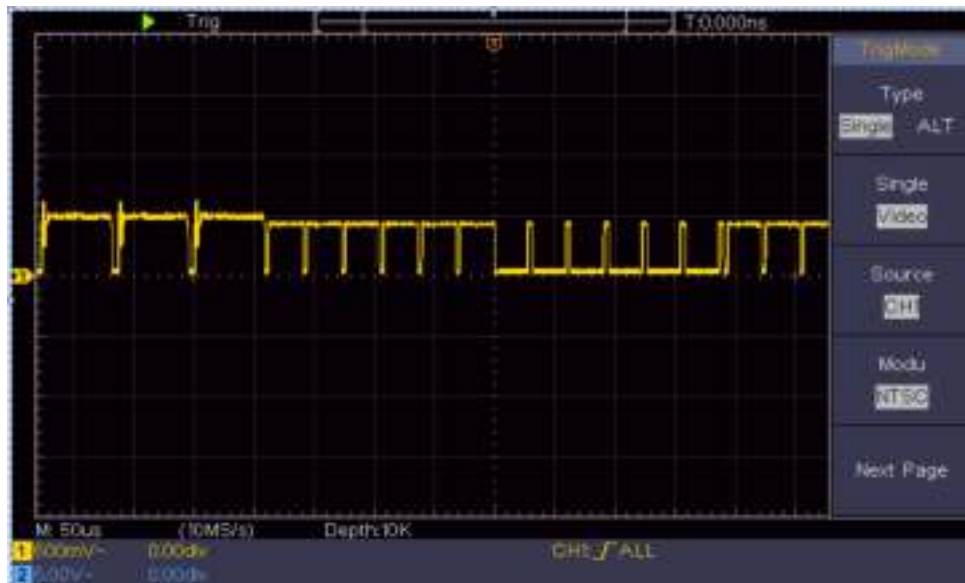

Figure 6-7 Waveform Captured from Video Field Trigger
- (1) Push the **Trigger Menu** button to display the right menu.
- (2) In the right menu, select **Type** as **Single**.
- (3) In the right menu, select **Single** as **Video**.
- (4) In the right menu, select **Source** as **CH1**.
- (5) In the right menu, select **Modu** as **NTSC**.
- (6) In the right menu, press **Next Page**, select **Sync** as **Field**.
- (7) Turn the **Vertical Scale**, **Vertical Position** and **Horizontal Scale** knobs to obtain a proper waveform display (see *Figure 6-7*).